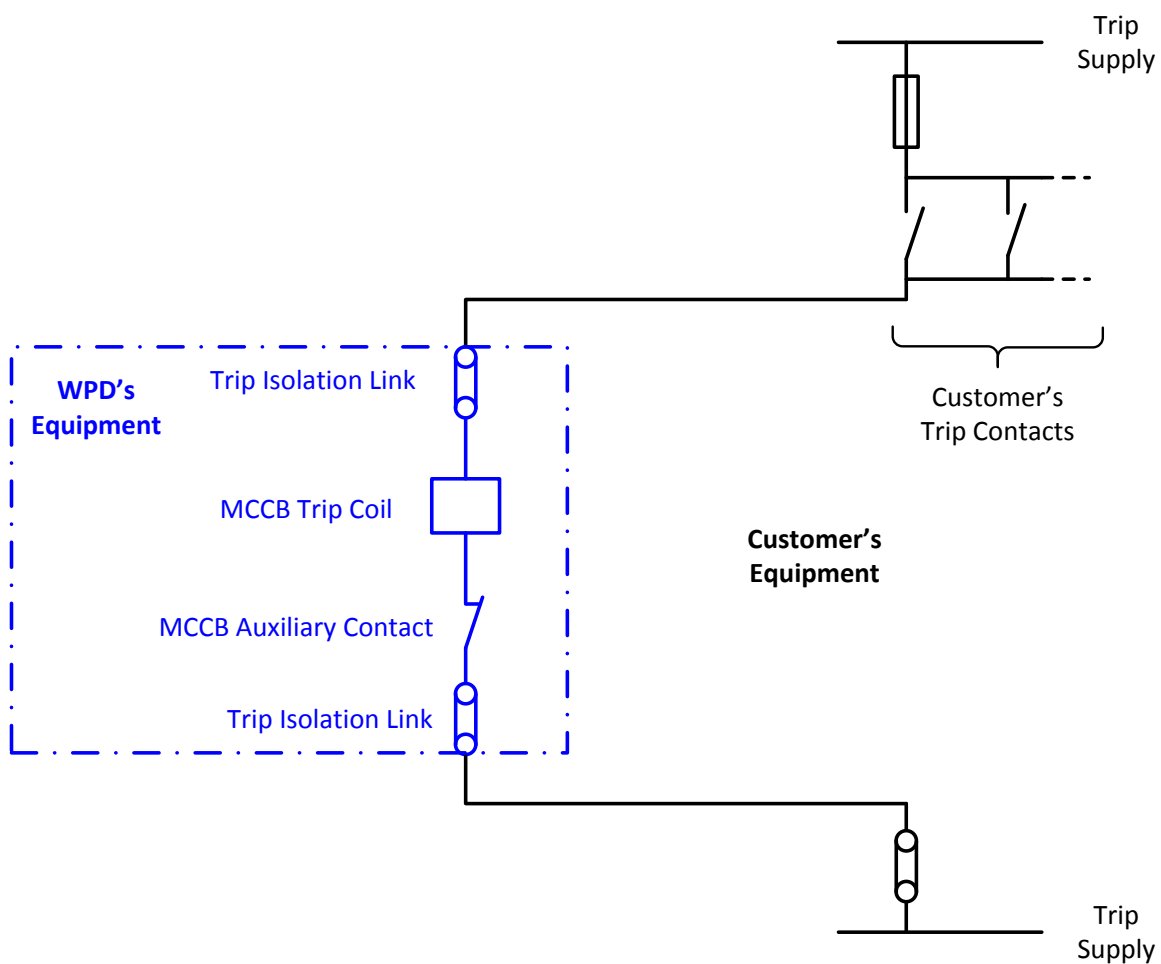

Figure 21 Emergency / Remote Tripping
8.6.4 A typical arrangement is shown in Figure 21. It is important that links are installed on the MCCB panel to allow isolation of the customer's tripping supply. These links should be clearly labelled "Trip Receive from Customer".